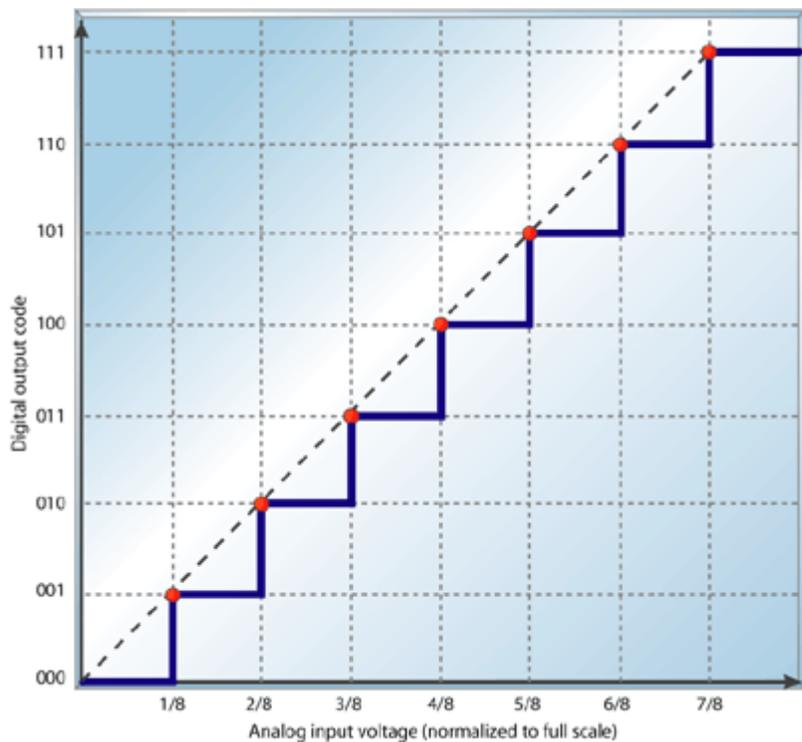
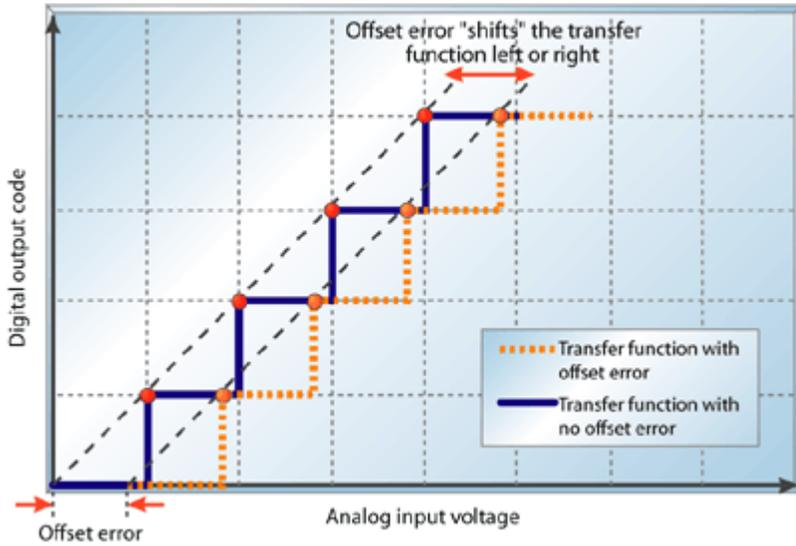

Figure 1: Ideal transfer function of a 3-bit ADC
Figure 3: Offset error
by the ADC. Such a plot is not continuous but is a plot of 2^N codes, where N is the ADC's resolution in bits. If you were to connect the codes by lines (usually at code-transition boundaries), the ideal transfer function would plot a straight line. A line drawn through the points at each code boundary would begin at the origin of the plot, and the slope of the plot for each supplied ADC would be the same as shown in Figure 1.
Figure 1 depicts an ideal transfer function for a 3-bit ADC with reference points at code transition boundaries. The output code will be its lowest (000) at less than 1/8 of the full-scale (the size of this ADC's code width). Also, note that the ADC reaches its full-scale output code (111) at 7/8 of full scale, not at the full-scale value. Thus, the transition to the maximum digital output does not occur at full-scale input voltage. The transition occurs at one code width—or least significant bit (LSB)—less than full-scale input voltage (in other words, voltage reference voltage).
The ideal transfer function line will intersect the origin of the plot. The first code boundary will occur at 1 LSB as shown in Figure 1. You can observe *offset error* as a shifting of the entire transfer function left or right along the input voltage axis, as shown in Figure 3.